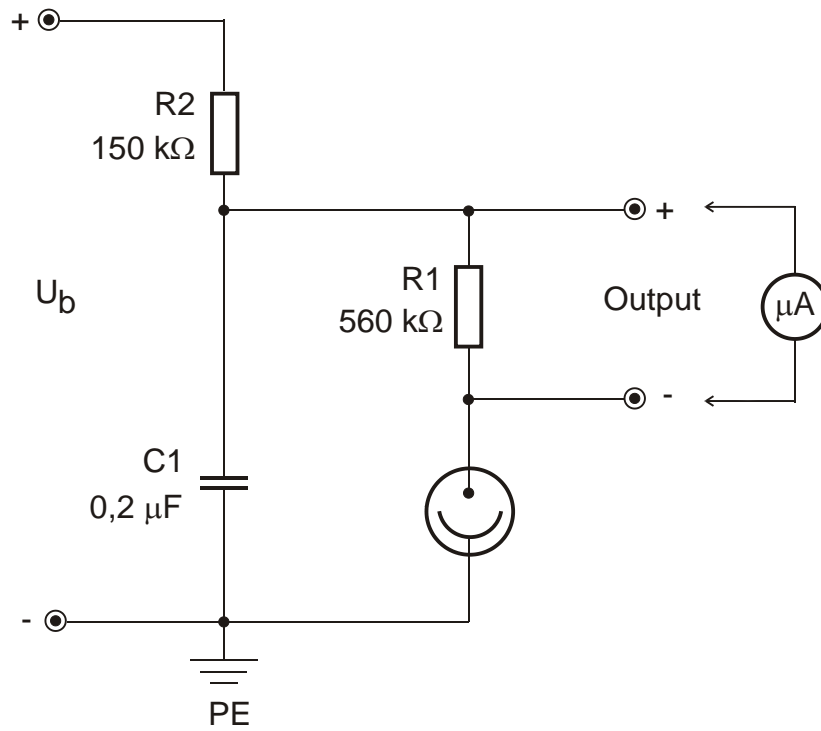

Fig.1 Circuit of the photocell
Figure 1 shows the circuit of the photocell. The collector voltage U_b is applied to the pair of sockets (1), and produces an electric field between the cathode and the anode. The dependence of the photoelectric current on the